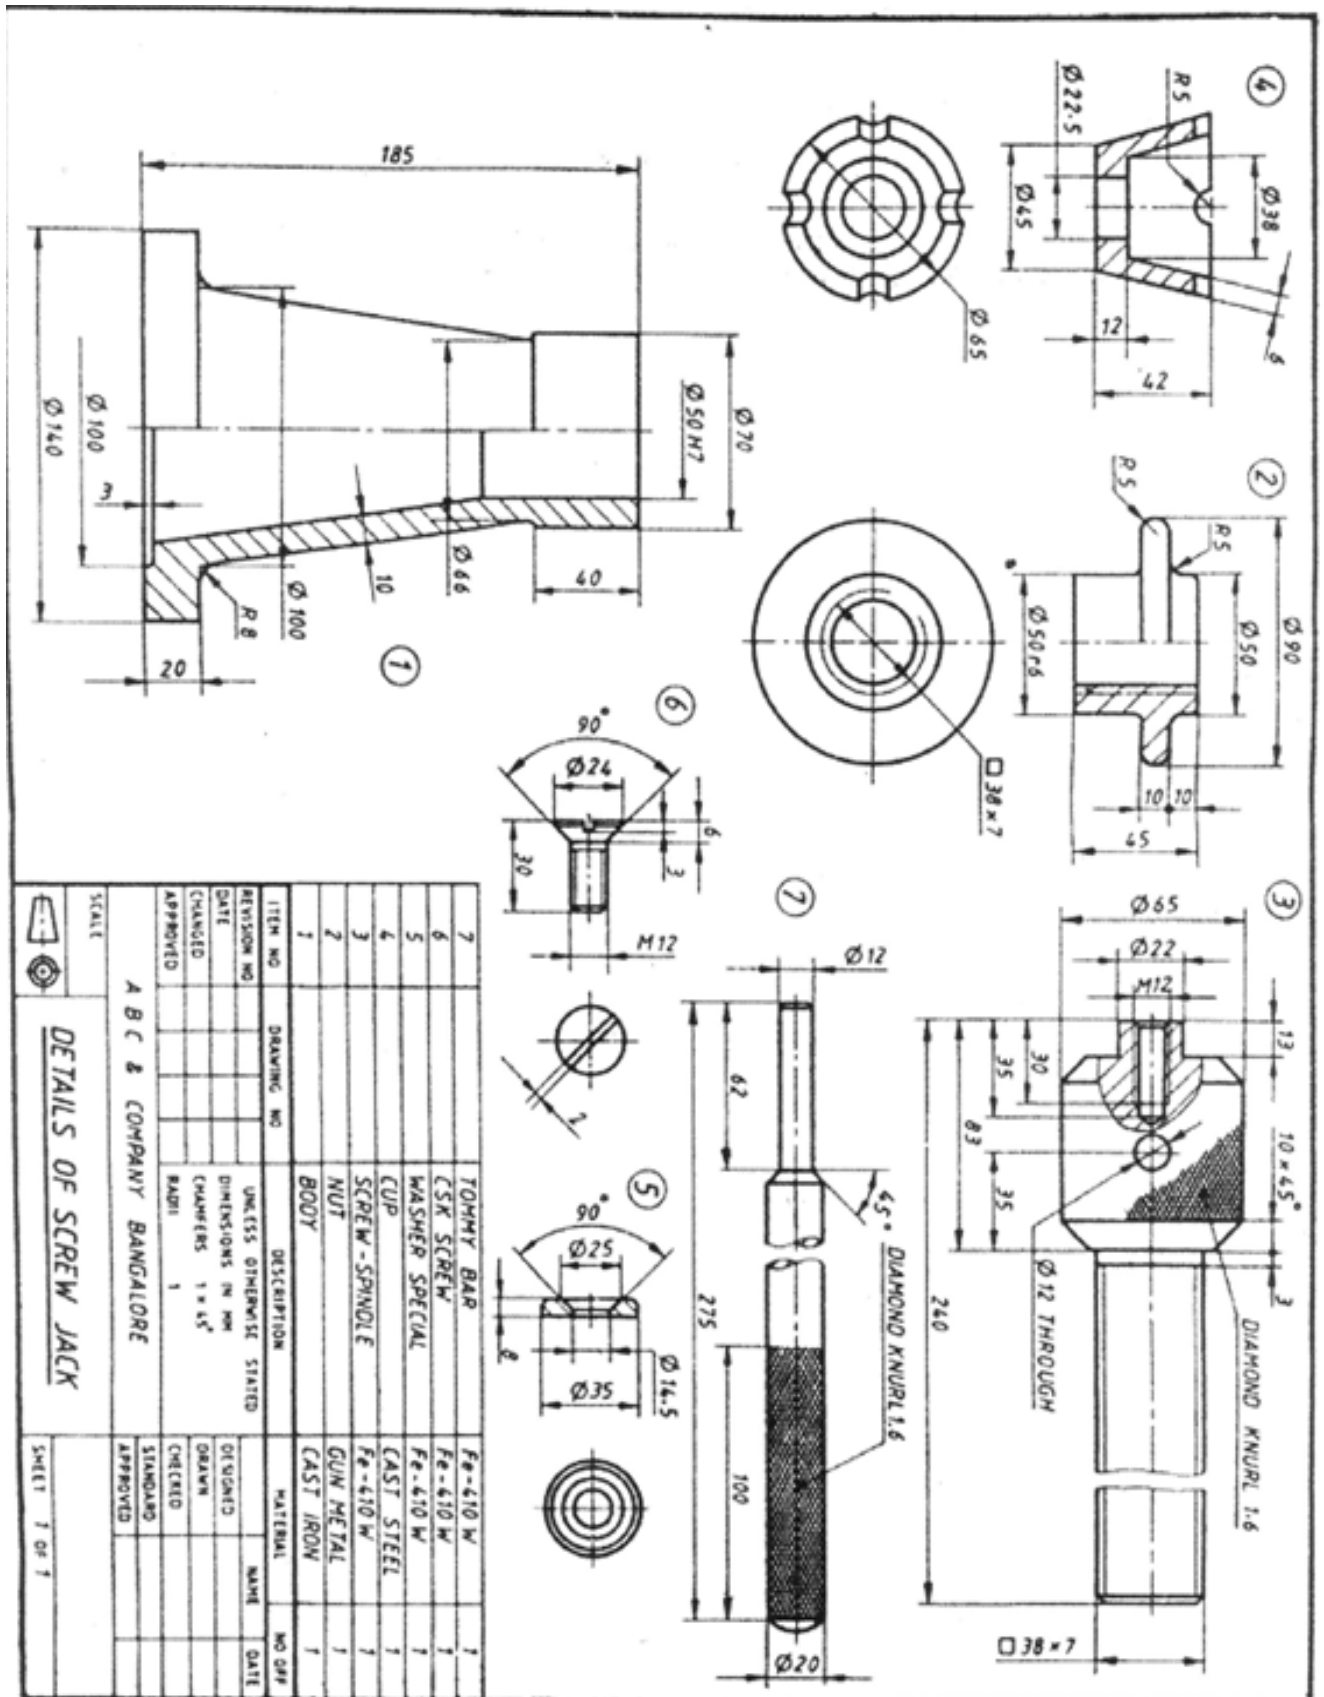

Figure 2 SCREW JACK
6. Details of 'Screw Jack' are shown in following Figure 2. Assemble the parts and draw the following views of the assembly.